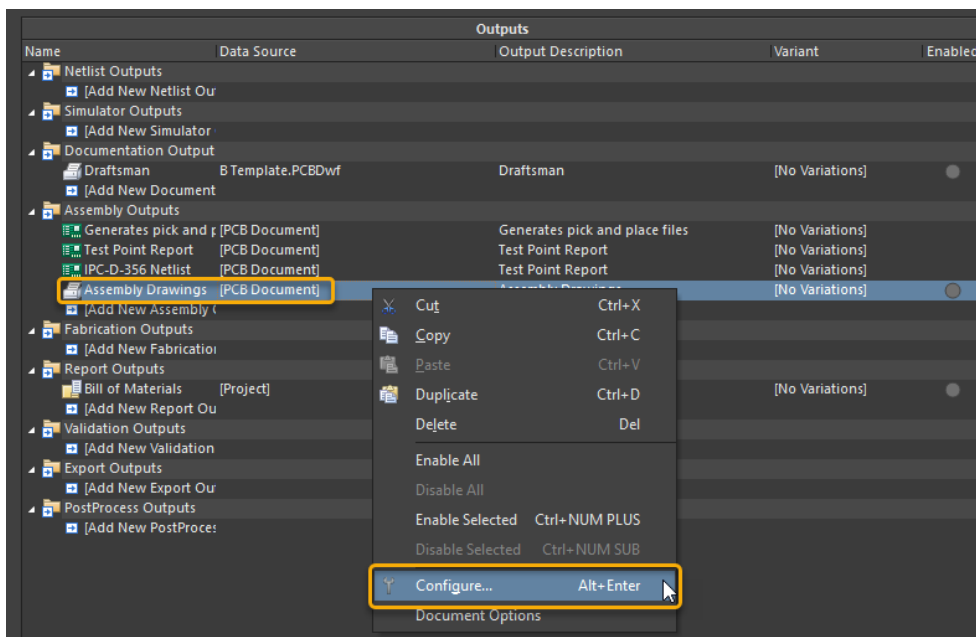
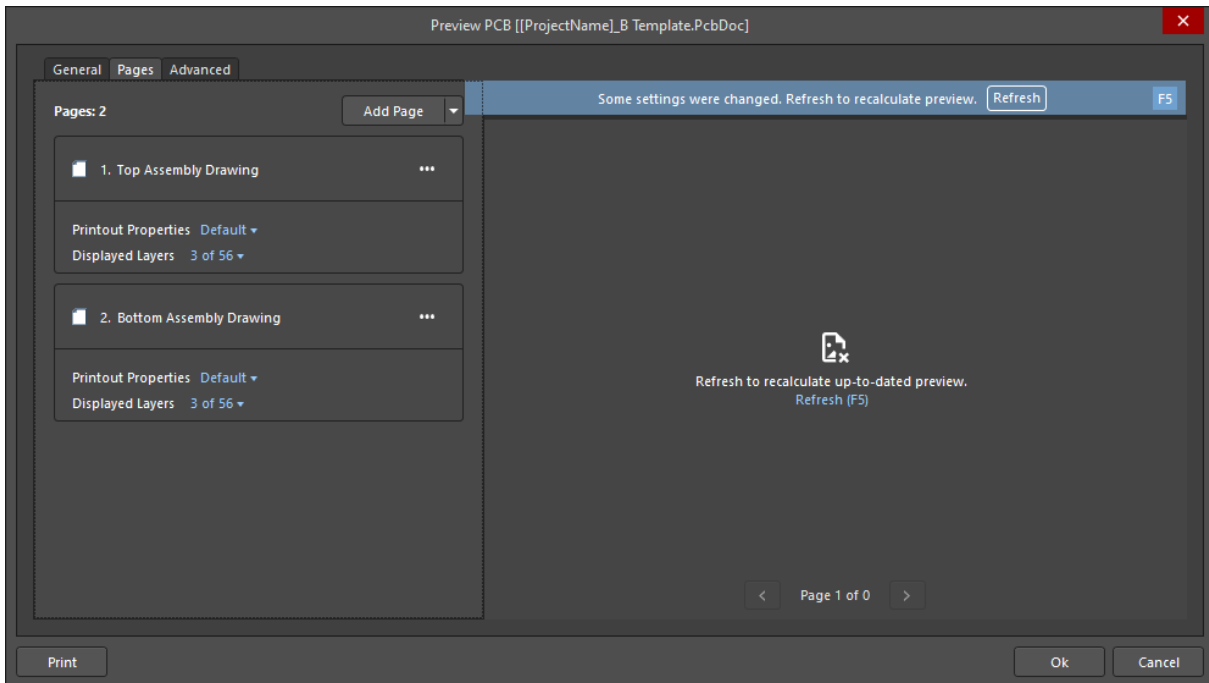

Figure 17. Create new Assembly Drawing output
Figure 18. The default drawing sheets and layer sets
- Select *Assembly Drawings - [PCB Document]* and double click, or use right mouse button and select **Configure...** as shown in Figure 17 to open the *Preview PCB* properties window, as shown in Figure 18.